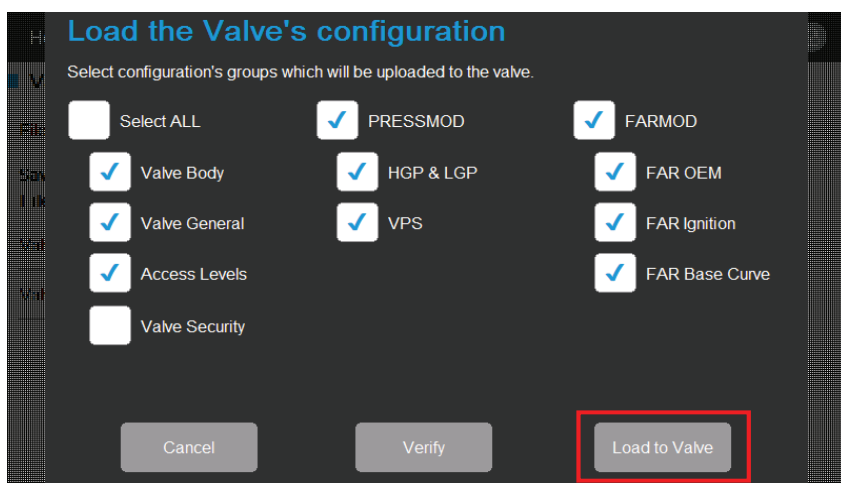

Fig. 118: Valve Production Cloning configuration groups selection, with passwords, 'Valve Security' group not selected.
- b. If the 'Valve Security' group is unchecked, the OEM main password does not need to be entered on this page. Refer to Fig. 118.